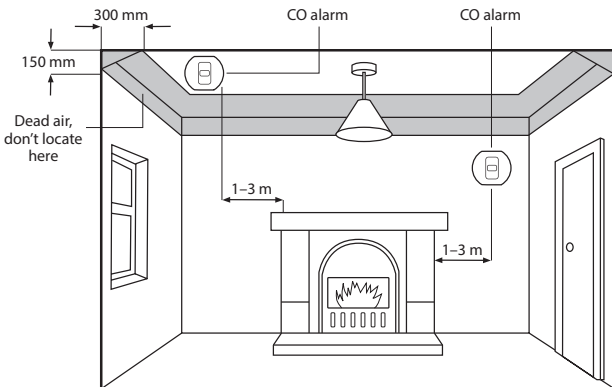

Figure 2
- In rooms with sloped ceilings, the CO alarm should be located at the high side of the room, see Figure 2.